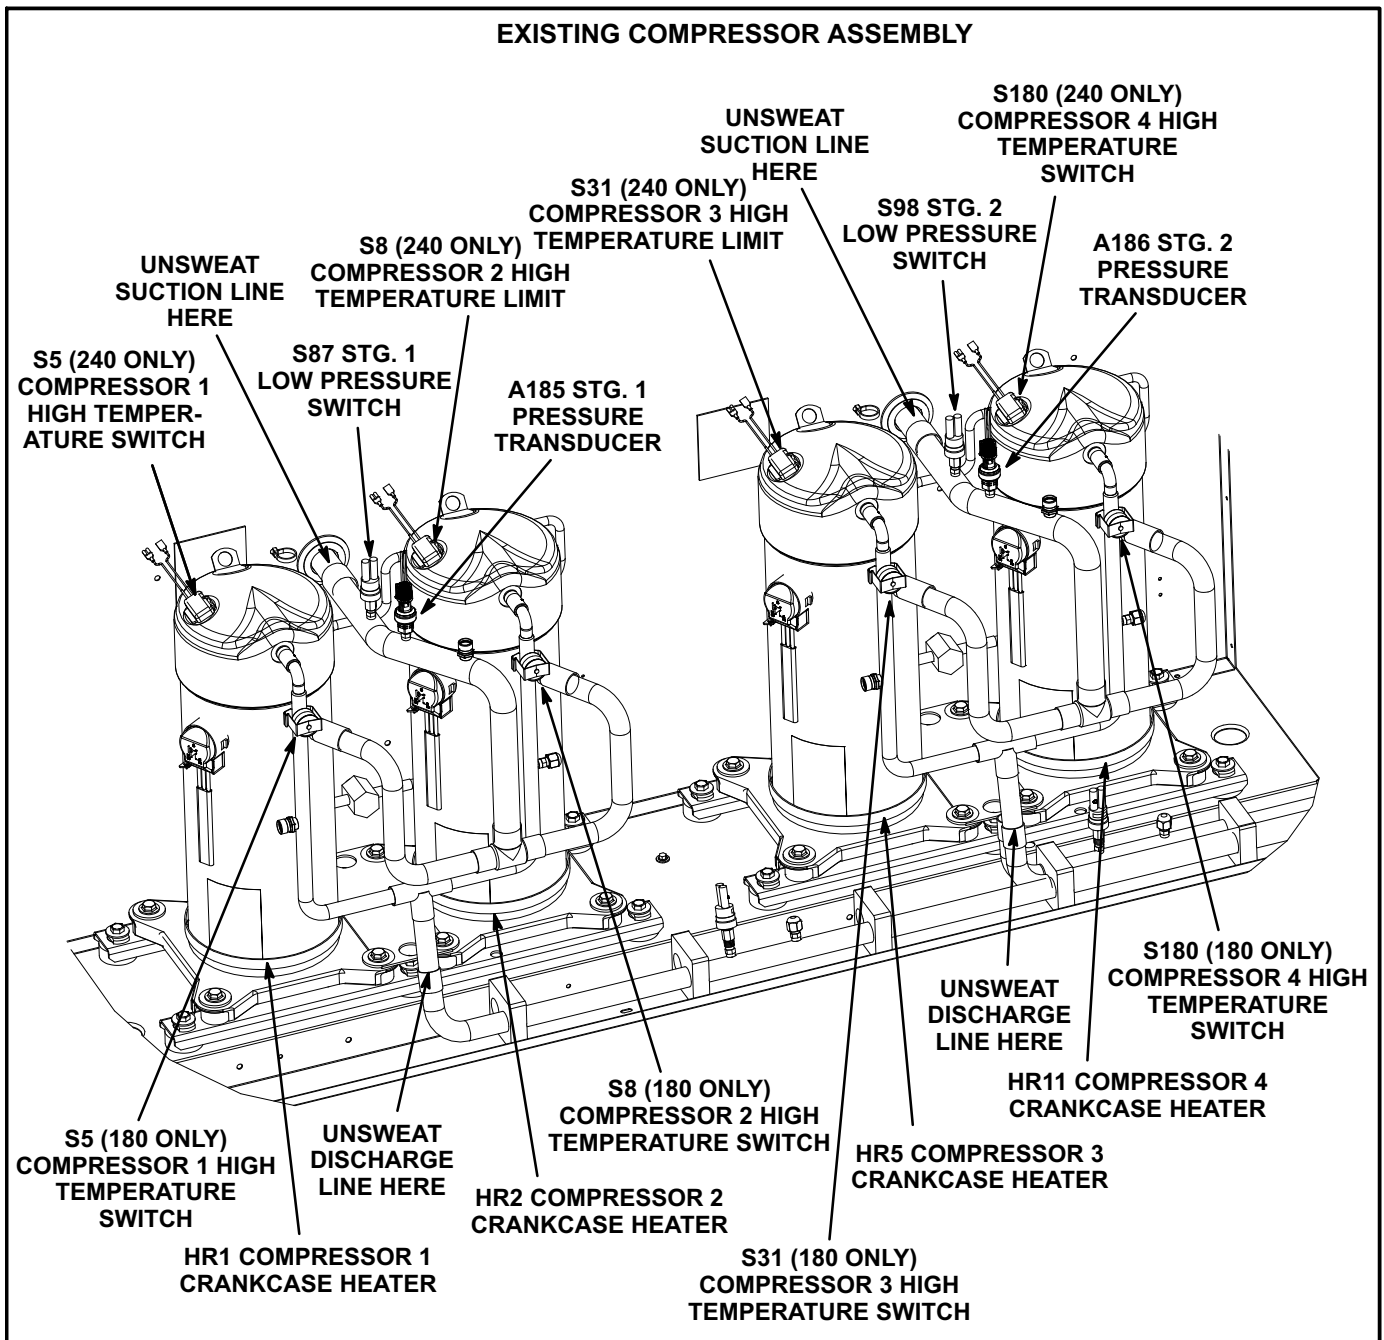

FIGURE 3
- 3- Remove and retain the following components to be installed on the replacement compressor. See figure 3.
- 4- Unswear suction and discharge lines at locations shown in figure 3.
6- Replace the following retained components in the same manner they were removed. See figure 3.